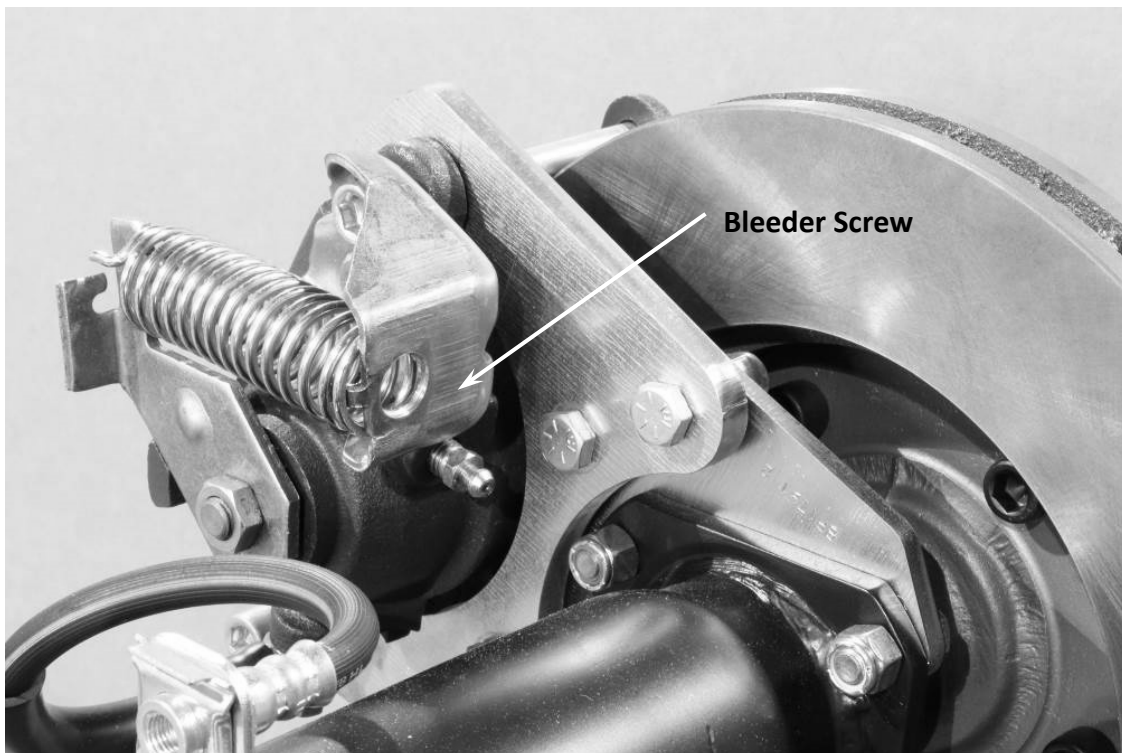

Figure 5 – Caliper Installed w/Bleeder Screw on Top
9. Install the caliper over the rotor. When installing, make sure the bleeder screw is pointing up like shown in Figure 5 below. After installed and in place, slide the caliper mounting bolts through the caliper and thread them into the bracket. Torque the bolts to 50 ft/lbs.